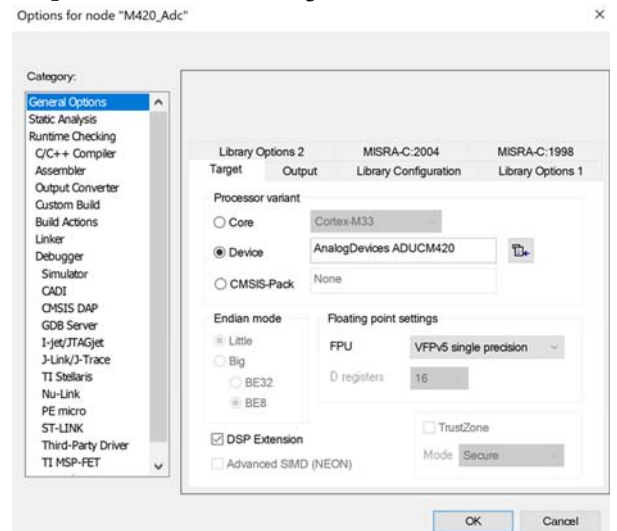

Figure 25. IAR IDE General Options
- From the **Category** section, click **General Options**. Then click the **Target** tab, and ensure the **FPU** box in the **Floating point settings** section is set to **VFPv5 single precision**, as shown in Figure 25.